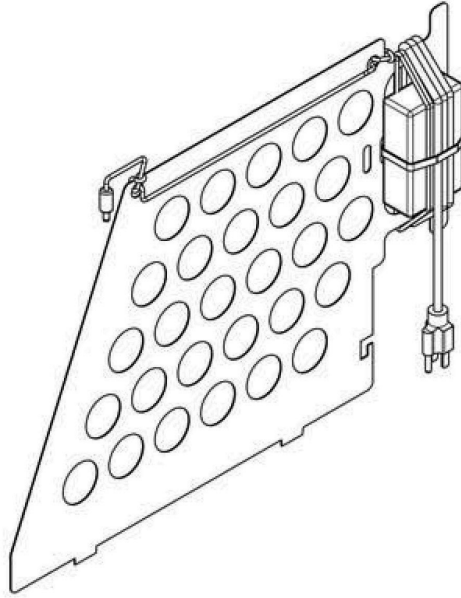

Figure 4-10. A divider with a power brick properly attached.
**Step 5.** Wrap the remaining length of power cord around the power brick (see Figure 4-10, page 12).